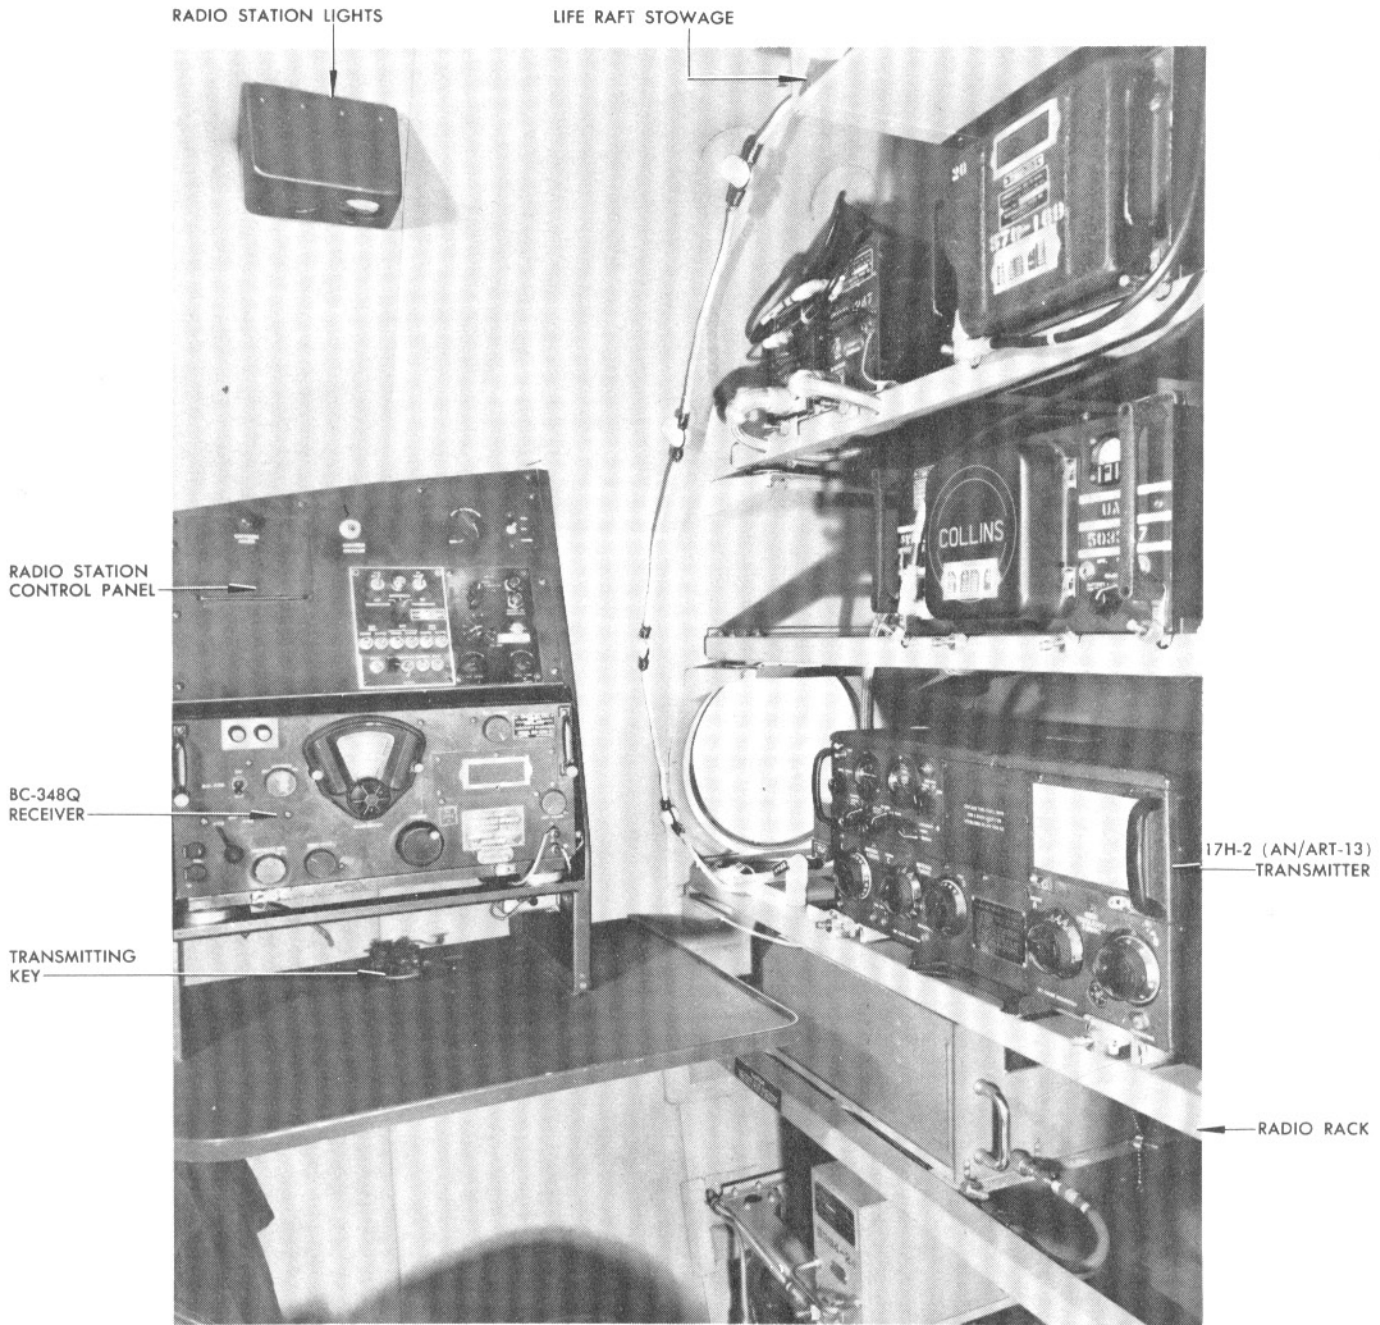

Figure 3-1. Radio Station
ceiver at the radio station. (See figure 3-1.) The audio selection panel and an LF and HF communication control panel are mounted on it. The LF and HF communication panel has controls for the AN/ART-13 transmitter and the Collins 18-S-2 (or 18-S-3) transceiver. Primary control of operation of these radios is given the radio station by use of the function selector switch on the panel. This switch selects 18-S-2 or -3 transceiver operation on the left side and AN/ART-13 transmitter operation on the right side. When the switch is in the "18-S" positions, the radio station only has control of the 18-S frequency selection; however, transmissions and reception can be made from the pilots' station on the frequency selected at the radio station. When the switch is in the "ART-13" positions, the pilots have control of the 18-S frequencies and the radio station can operate the AN/ART-13 transmitter. The 18-S positions are (1) "CW," (2) "RECEIVE" (standby), and (3) "VOICE." The ART-13 positions are (4) "VOICE," (5) "MONITOR" (BC-348Q), and (6) "CW." A rotary selector switch with ten positions and an "A-B" toggle selector switch permit selection of the desired 18-S frequency channels. These switches function only while the function selector switch is in the 18-S positions. The beat frequency oscillator control knob and receiver sensitivity control knob are for 18-S functions only and are brought into operation when the function selector switch is set to "18-S." A red light on the panel will be illuminated when the function selector switch is in 18-S "CW" position or while transmitting. A green light, also on the panel, is used to signal the pilot (see "Crew Call System").